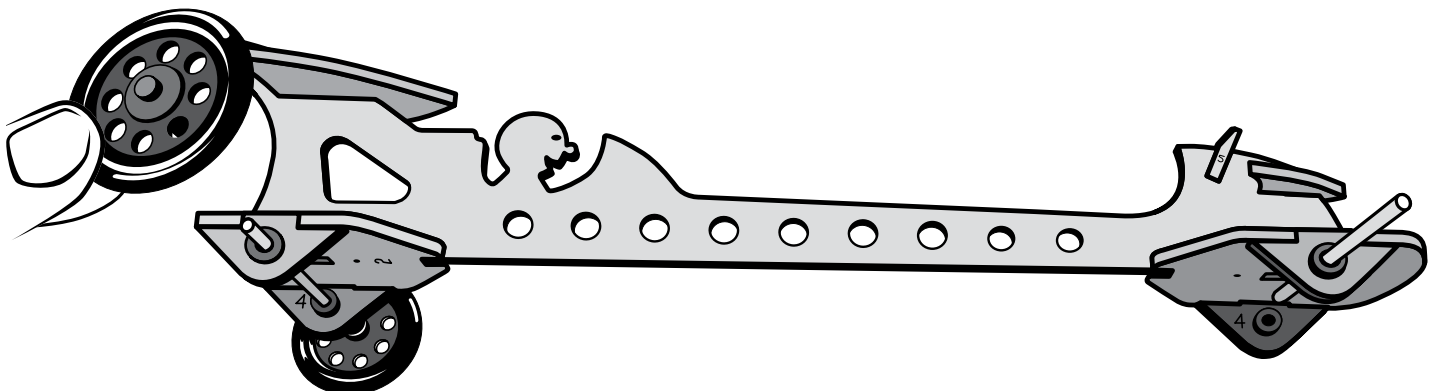

Figure 9
9. Insert the axles through the bushings at each end of the racer as shown (right side of Figure 9).
10. Firmly, press one wheel on each end of the axles as shown (left side of Figure 9). Make sure the wheels spin easily. If they do not, push them farther apart on the axle.